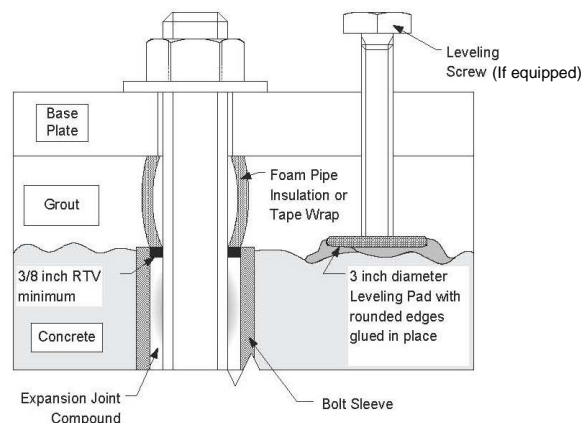

Figure 4. Grouting and Foundation Bolting
The base should be supported on either rectangular metal blocks with shims or on metal wedges having a small taper. The support pieces should be placed close to the foundation bolts. Refer to Figure 4, Grouting and Foundation Bolting. Place supports directly under the part of the base plate, which carries the greatest weight. Space the supports closely enough to provide uniform support of the base plate. Adjust the metal supports or wedges until the shaft is level. Check suction and discharge flanges of the pump by means of a level. Make corrections, as necessary, by adjusting the supports or wedges under the base plate.
E. GROUTING. After the pumping unit has been leveled and the alignment is correct, grout the unit to the foundation using a high-grade, non-shrinking grout, refer to Figure 4. Proceed grouting using the following procedure: